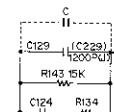

Fig. 6.2.4 Main P.C.B.
(1) For SX Tape
- Feed in 10 kHz and 400 Hz (-20 dB) then record and play it back. Check the difference of the levels between 10 kHz and 400 Hz, and mount an additional capacitor in parallel with the C129 (C229) from the dip side of the printed circuit board depending upon the difference of the levels against 400 Hz. See Fig. 6.2.4.